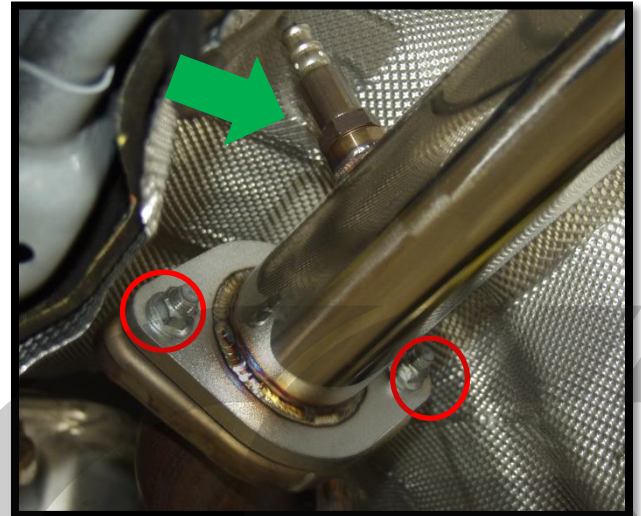

Figure 4d
e) Coat the downpipe studs with anti-seize lubricant. Replace the two (2) 14mm nuts (red circles) and fasten the exhaust flanges together (Figure 4d). Torque the nuts 35ft-lbs.
f) Coat the threads on the o2 sensor with anti-seize and fasten it back into the o2 bung in the exhaust with an o2 sensor wrench (green arrow in Figure 4d).